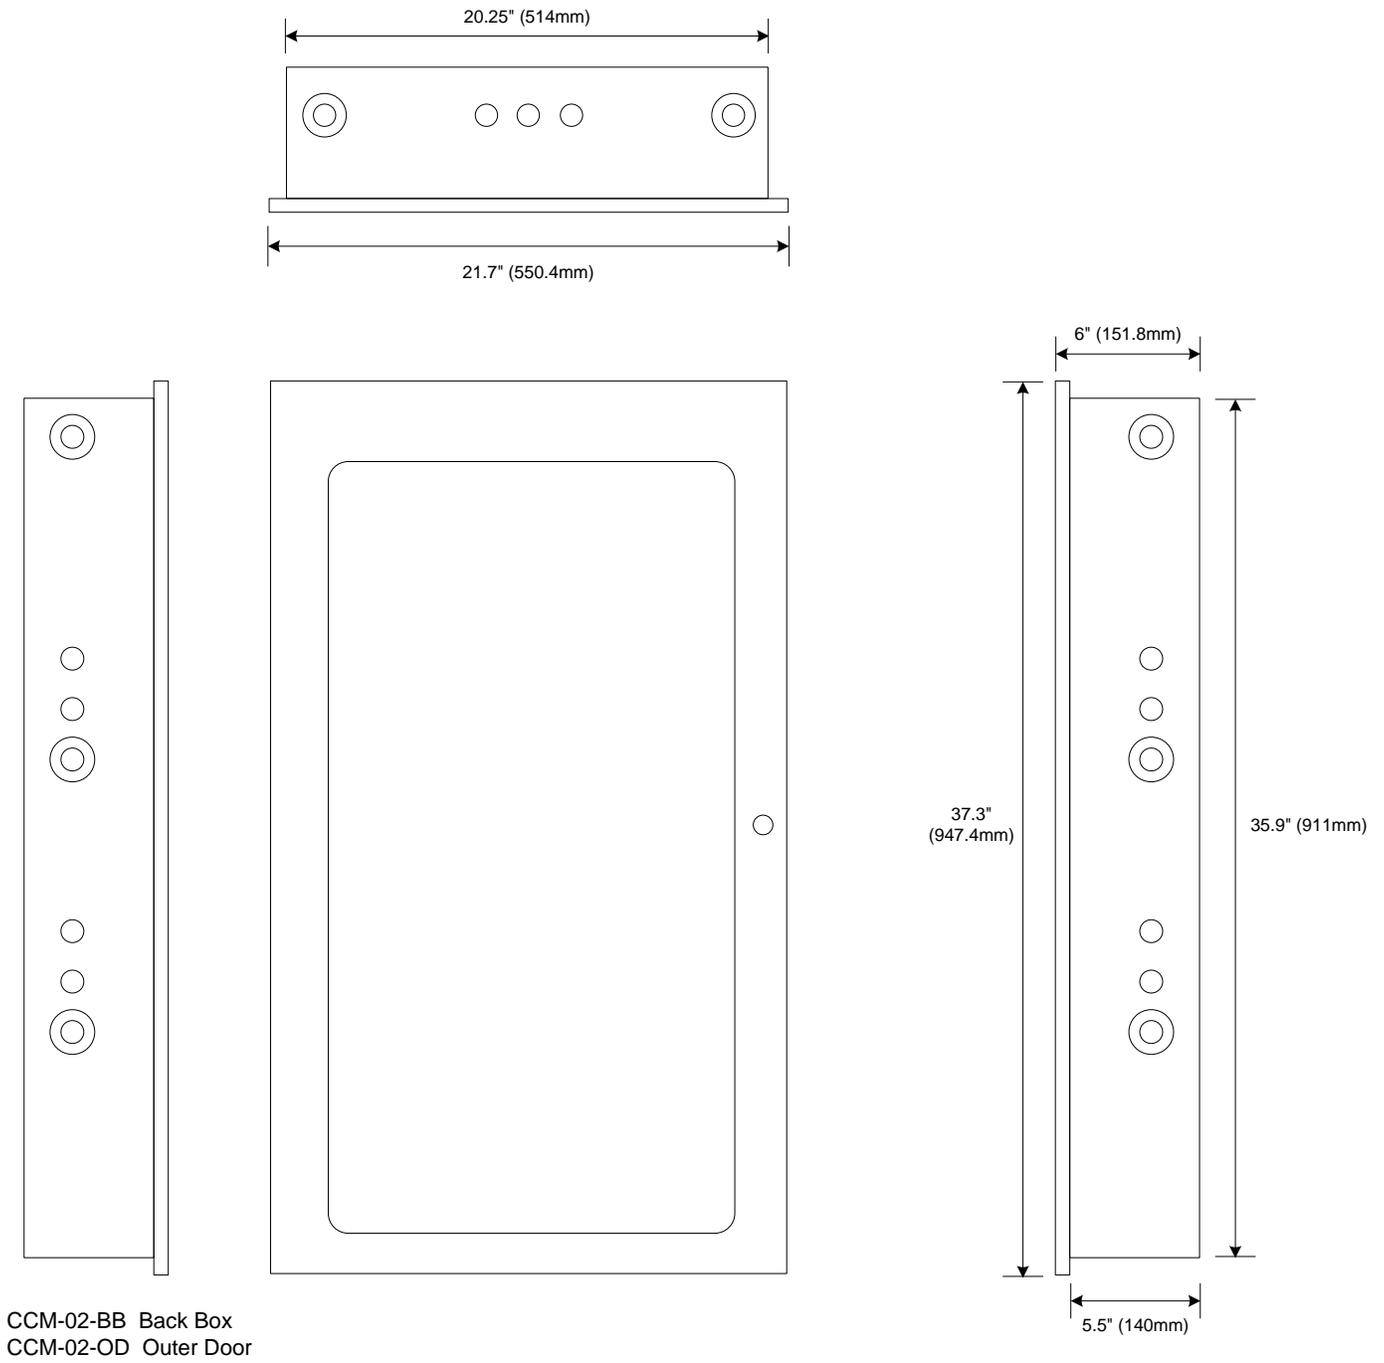

Figure 4 - NX-CC02-BB Enclosure Dimensions
**Note: The NX-CC02-BB-BB back box includes eleven single knockouts (7/8") and nine double knocks (7/8" or 1 3/4", two located on the bottom of the back box). Care should be taken when utilizing the inner 7/8" knockout of the 1 3/4" to avoid knocking out the 1 3/4" (see figure 4).**